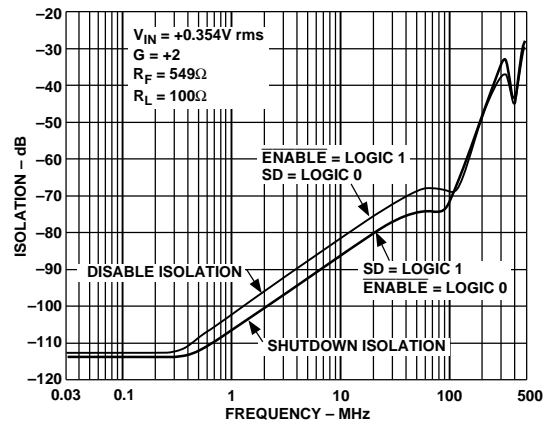

Figure 14. AD8174R Disable and Shutdown Isolation vs. Frequency
- 7AD8174 only. Shutdown (SD) pin is grounded. Mux is disabled, (i.e.,  $\overline{\text{ENABLE}}$  = Logic 1) and all inputs are driven simultaneously with VIN = 0.354 V rms. Output is monitored at f = 5 MHz and 30 MHz; RL = 100 Ω. In this mode, the output impedance of the disabled mux is very high (typ 10 MΩ), and the signal couples across the package; the load impedance and the feedback network determine the crosstalk. For instance, in a closed-loop gain of +1, rOUT ≈ 10 MΩ, in a gain of +2 (RF = RG = 549 Ω), rOUT = 1.1 kΩ (see Figure 14).
- 8AD8174 only.  $\overline{\text{ENABLE}}$  pin is grounded. Mux is shutdown (i.e., SD = Logic 1), and all inputs are driven simultaneously with VIN = 0.354 V rms. Output is monitored at f = 5 MHz and 30 MHz; RL = 100 Ω. (see Figure 14). The mux output impedance in shutdown mode is the same as the disabled mux output impedance.